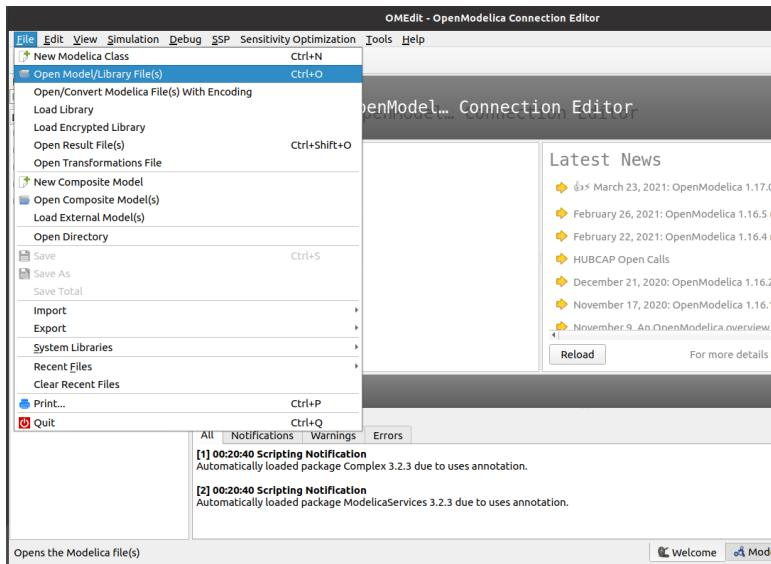

Figure 3.38: Opening a model in OMEedit
The files or models in OpenModelica have ‘.mo’ extensions. Though there are several ways to simulate or run an OpenModelica model, we will execute the models by utilizing the user interface of OMEdit. To open a model in OMEdit, go to the menu bar of OMEdit and click on File -> Open Model/Library File(s), as shown in Fig. 3.38. Then, select the desired model (with ‘.mo’ extension) and click Open. The names of tabs in this book have been mentioned according to OpenModelica 1.17.0. You might observe a bit of difference
2. After launching, we have to load OpenModelica-Arduino toolbox. To do so, go to the menu bar of OMEdit. Click on File and then click on the Open Model/Library File(s) option as shown in Fig. 3.38.